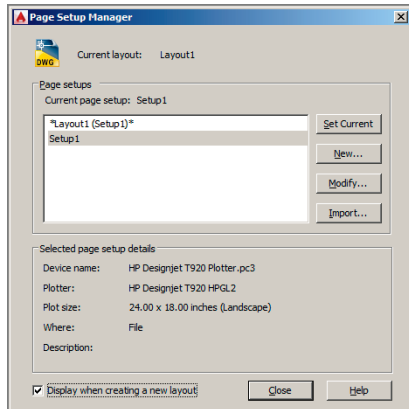

FIGURE 14.19 Saving a page setup for use in the next layout
4. The Page Setup Manager dialog box now lists Setup1 as a saved page setup. Select Display When Creating A New Layout (see Figure 14.19). Click the Set Current button, and then click Close.